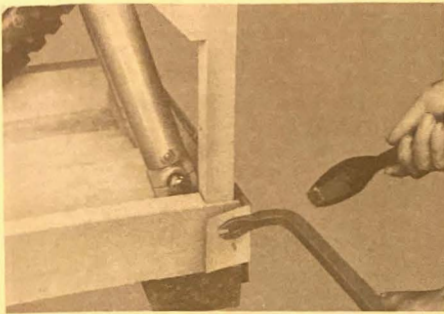

Fig. 13
- a. Remove the nail at each corner of the crate, and remove the struts. (Fig. 13)